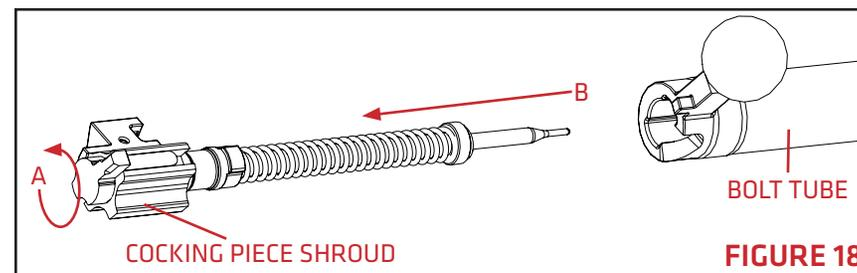

FIGURE 18
- Rotate the cocking piece shroud counter clockwise 120 degrees (FIGURE 18-A) and withdraw from the bolt tube (FIGURE 18-B). DO NOT DECOCK THE LEVER WITH THE FIRING PIN ASSEMBLY REMOVED FROM THE BOLT TUBE.